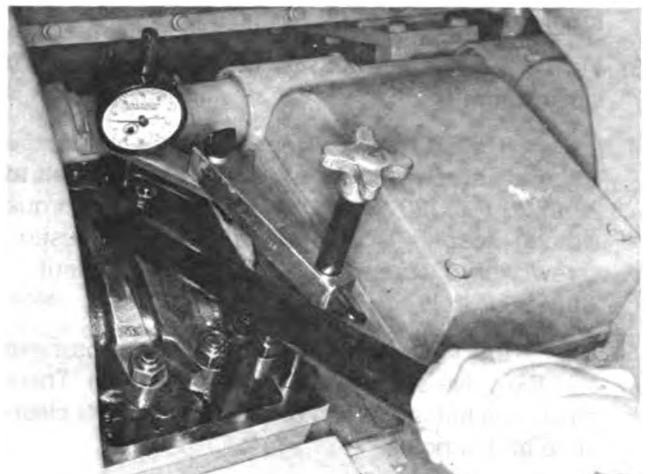

Fig. 2-63, (K21921). Bottoming injector plunger in cup
3. Using the rocker lever actuator, Fig. 2-63, depress the lever toward the injector until the plunger is bottomed in the cup to squeeze the oil film from the cup. Allow the injector plunger to rise, bottom again, hold in the bottom position and set the indicator at zero (0). Check the extension contact with the plunger top.